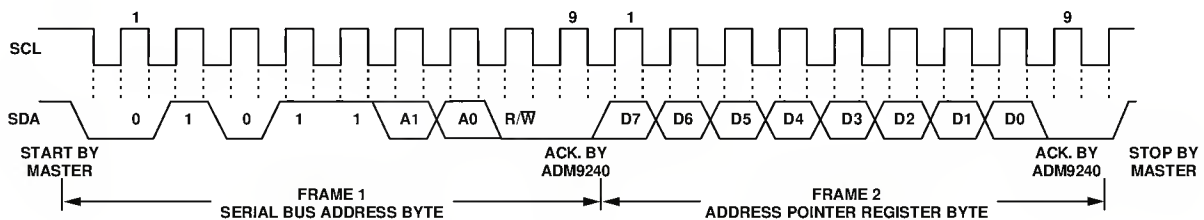

Figure 2b. Writing to the Address Pointer Register only
1. If the ADM9240's Address Pointer Register value is unknown or not the desired value, it is first necessary to set it to the correct value before data can be read from the desired data register. This is done by performing a write to the ADM9240 as before, but only the data byte containing the register address is sent, as data is not to be written to the register. This is shown in figure 2b.
2. If the Address Pointer Register is known to be already at the desired address, data can be read from the corresponding data register without first writing to the Address Pointer Register, so figure 2b can be omitted.